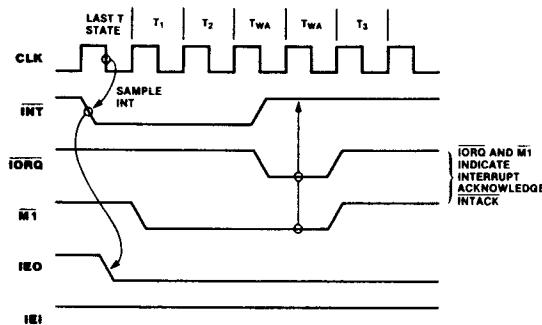

Figure 18. Interrupt Acknowledge Timing
**Interrupt Acknowledge Timing.** During  $\overline{M1}$  time, peripheral controllers are inhibited from changing their interrupt enable status, permitting the Interrupt Enable signal to ripple through the daisy chain. The peripheral with  $IEI = 1$  and  $IEO = 0$  during INTACK places a preprogrammed 8-bit interrupt vector on the data bus at this time (Figure 18).  $IEO$  is held Low until a Return From